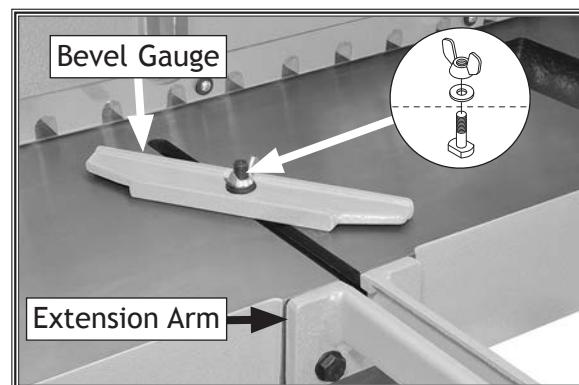

Figure 21. Bevel gauge installed to support angled front workpiece edge.
4. Install (1) M12-1.75 x 45 T-bolt in T-slot and secure bevel gauge to extension arm or table against workpiece front edge with (1) 12mm flat washer and M12-1.75 wing nut (see Figure 21).
**Note:** Figure 21 shows bevel gauge installed in left T-slot, but it can be installed in either side. Install the bevel gauge in the best position to secure your workpiece for the operation.